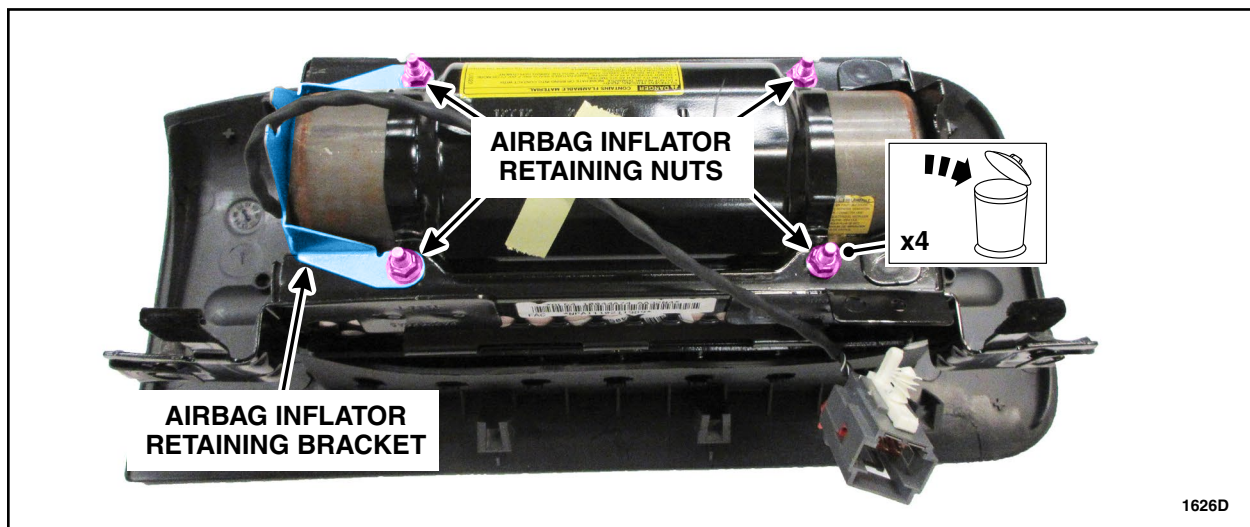

FIGURE 4
7. Remove and discard the four passenger airbag inflator retaining bracket nuts and the retaining bracket. See Figure 4.